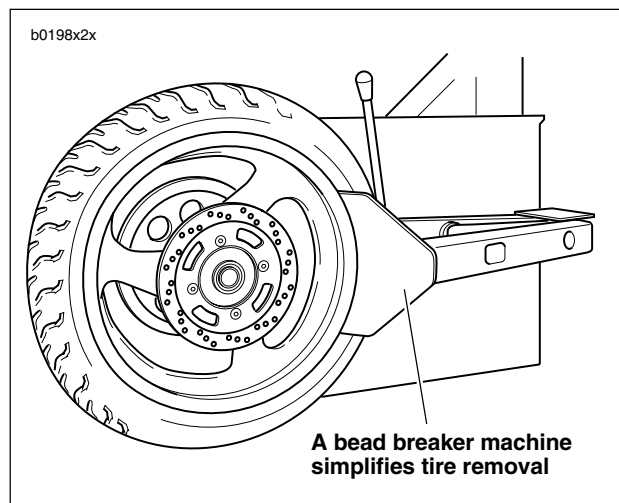

Figure 2-12. Loosening Beads from Rim Flange
3. See Figure 2-12. Loosen both tire beads from rim flange.